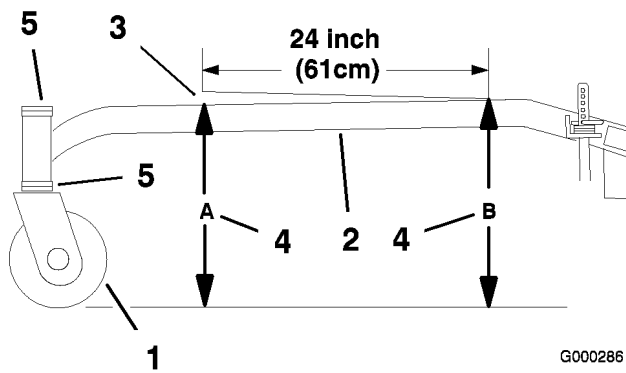

Figure 58
The carrier frame must have a pitch of a 1/4 inch (6 mm) over the length of 24 inches (61 cm) on the carrier frame (Figure 58).
- Measure out 24 inches (61cm) on the carrier frame (Figure 58).
2. Measure carrier frame height at location **A** (Figure 58).
3. Measure carrier frame height at location **B**(Figure 58).
4. The height at location A must be a 1/4-3/8 inch (6 mm -10 mm) lower than location **B** (Figure 58).
5. If the carrier frame is not correct, move caster spacers to make it a 1/4-3/8 inch (6 -10 mm) pitch (Figure 58). Move spacers from top or bottom to make the correct pitch.